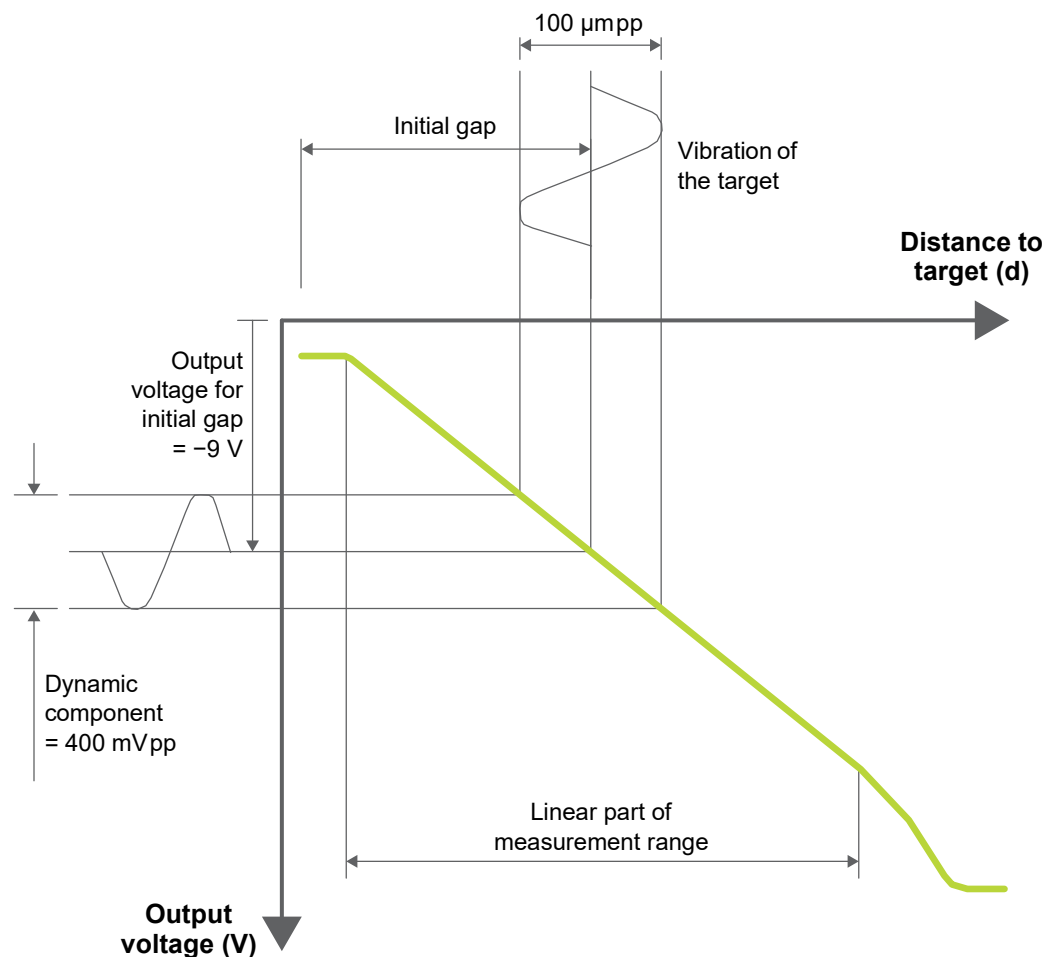

Figure 6-2: Example showing voltage output by the proximity measurement chain as a function of target distance (d)
Assuming that the initial gap is set mechanically in the linear part of the measurement range (see 6.1 Measurement and mechanical adjustment of the initial gap), the output voltage of the proximity measurement chain is normally around -9 V . Figure 6-2 shows that as the distance between the target and the proximity sensor varies:
- $\text{Voltage (V)} = -3.2\text{ (V/mA)} \times \text{current (value in mA)} + 48\text{ V}$
- 7- Plot a curve of the voltage-distance characteristics (see Figure 6-2 for an example).
- 5- Plot a curve of the voltage-distance characteristics (see Figure 6-2 for an example).